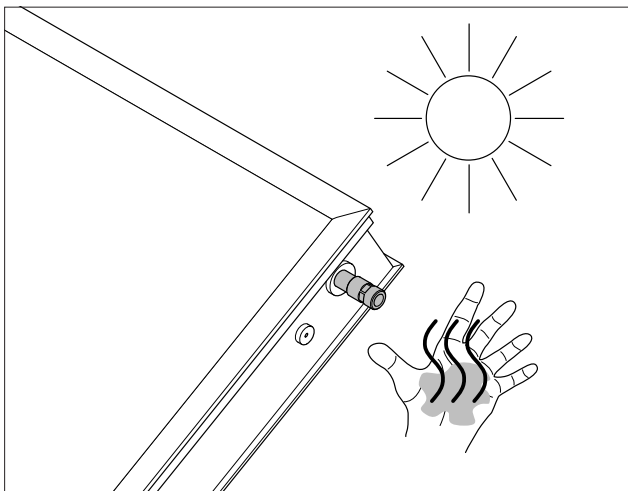

Figure 3 Collector connections heat up during solar irradiation.
- Risk of burns at collector connections as soon as uncovered collector is exposed to the sun (figure 3).